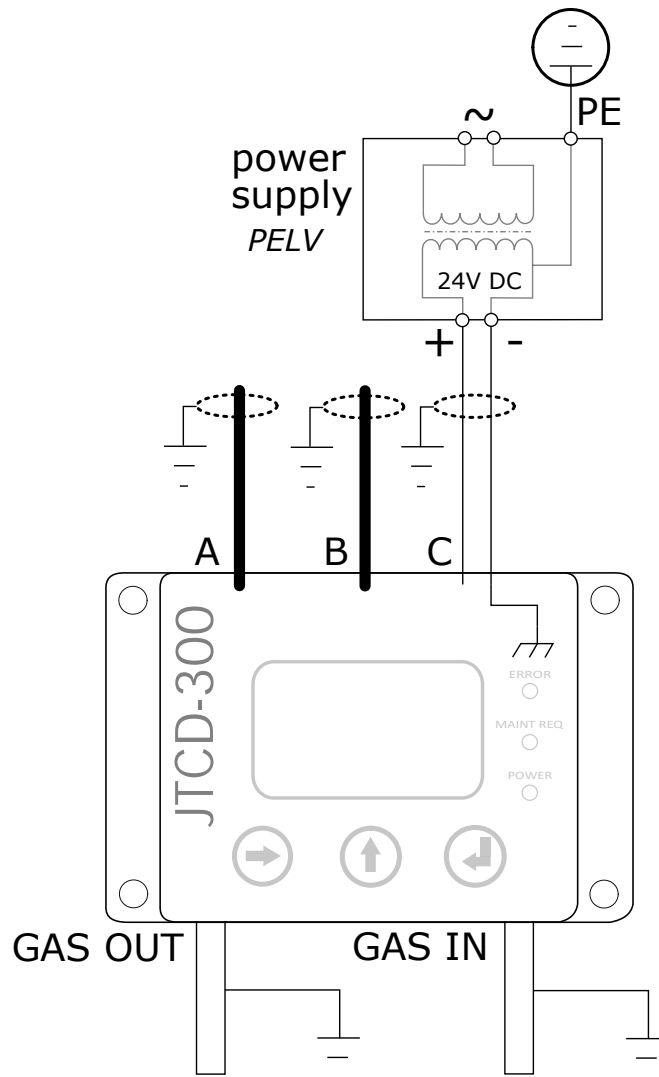

Figure 3.3: Grounding the JTCD-300
To comply with EN 60204-1 and to ensure your device's function, the device has to be installed such that GND on the low-voltage side of your 24V power supply is connected to protective earth (PE), see Figure 3.3. Some power supplies are internally wired like this already.